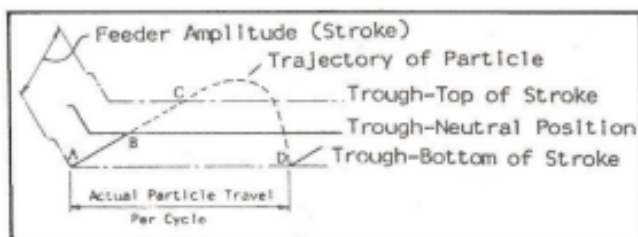

FIGURE 2 - MATERIAL FLOW ON TROUGH
Figure 2 illustrates the action of a single particle of material moving along the trough surface. During a vibration cycle, the trough surface travels between its lowest point (A) to its highest limit (C). The trough travels at its greatest velocity between (A) and (B), although still traveling up and forward, the trough decelerates between (B) and (C). On the upward stroke, the particle of material is in contact with the trough from (A) to (B). At point (B) the velocity of the particle becomes greater than the trough and the particle leaves the trough surface on a free flight trajectory from (B) to (D). The particle lands back on the trough surface at a position further forward (D). This completes one cycle. Each cycle imparts a forward and upward motion of the material and it lands further along the trough toward the discharge.